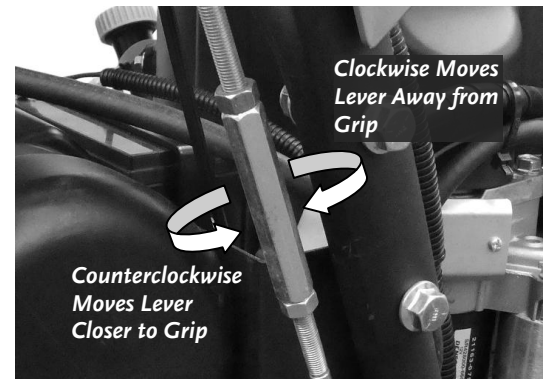

Figure 50
2. Both Right and Left side Adjusters - Turn the center Hex Sections in the necessary direction to set the distance between the lowest points of the Levers to the Handlebar Grips at 4" (**Figure 50 and 51**).